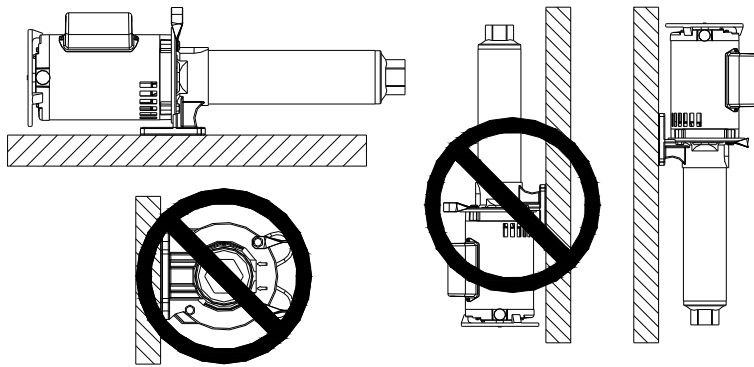

Figure 5
**NOTE:** Mount pump in correct position or pump failure will result (See Figure 5).